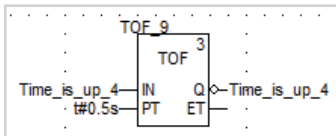

Figure 12
Below is a self-resetting off timer in LD which is simple enough. When the preset time (PT) is reached, the output (Q) turns off but the little circle at the Q output indicates that it has been negated so the opposite is true. Here is the program in Function Blocks (figure 12):